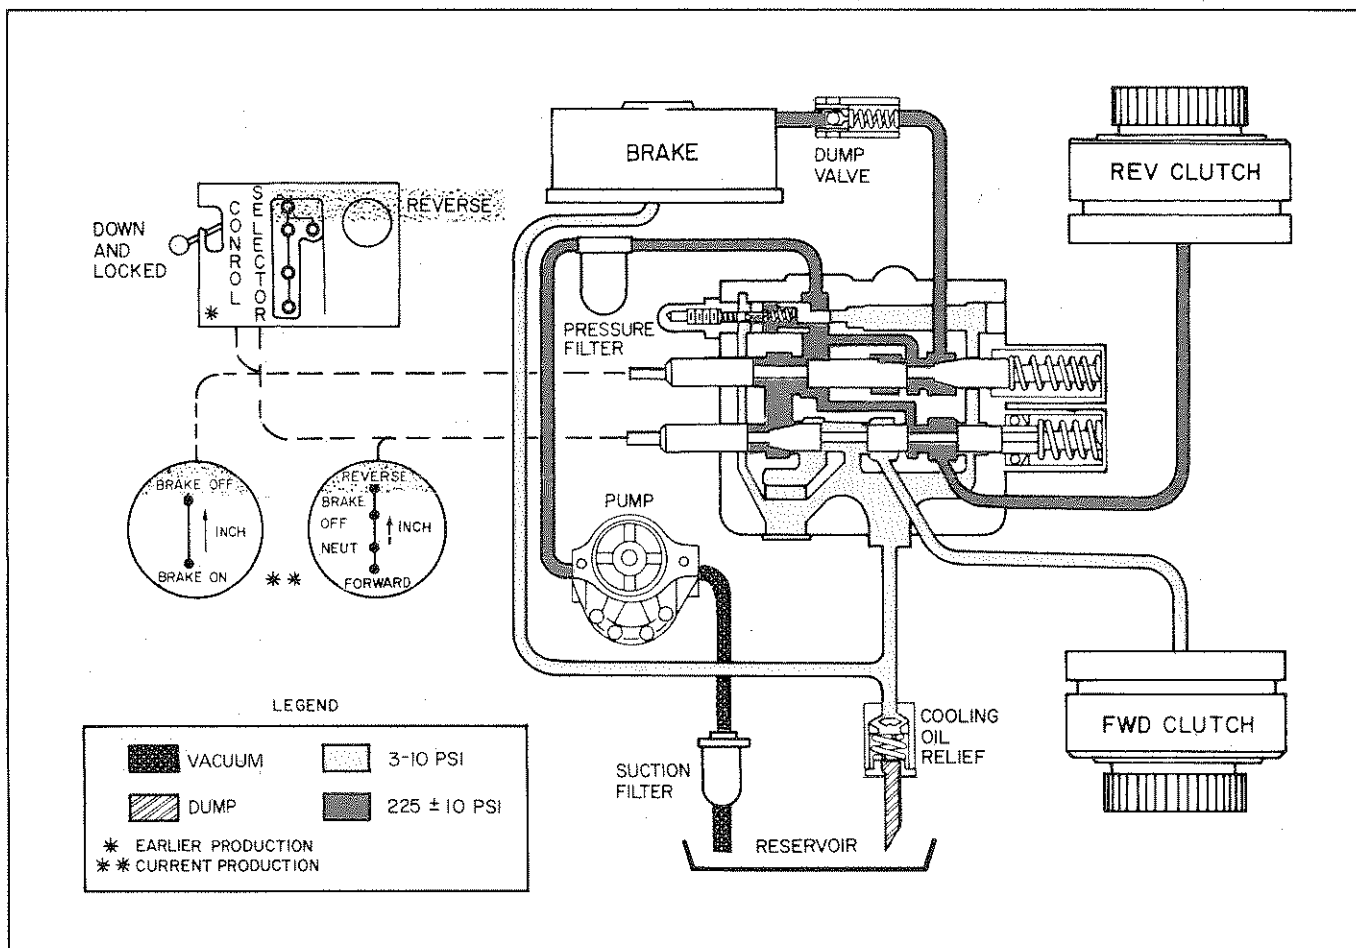

Figure 1-20. Flow Diagram, Reverse, Normal Control
1-42. HYDRAULIC SYSTEM, REVERSE, NORMAL OPERATION. (See Figure 1-20.) On earlier production Handling Gear, the system is placed in REVERSE, Normal Control by: (1) Moving the Control Lever down and locking it in place and (2) shifting the Selector Lever to the Reverse position. On the current production Handling Gear this is accomplished by: (1) Locking the Inching Lever to the Brake-Off position and (2) shifting the Selector Lever to the Reverse position. When the Control Lever is locked in the down position, or the Inching Lever is locked to the Brake-Off position, the inching spool is pulled to its extreme OUT position. With the Selector Lever in the Reverse position, the selector spool is pulled to its extreme OUT position. With the spools in these positions the pump draws oil from the reservoir through the suction filter and pushes it through the pressure filter to the control valve inlet port. Oil